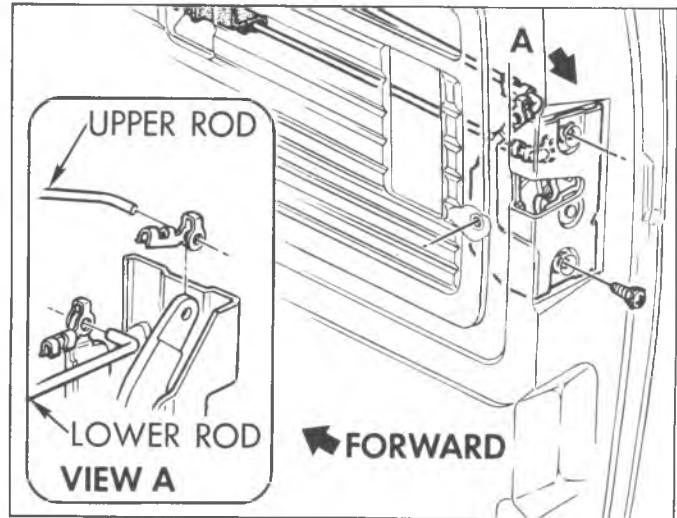

Fig. 23G—Sliding Door Rear Latch
4. Remove rear latch attaching screws. See figure 23G.